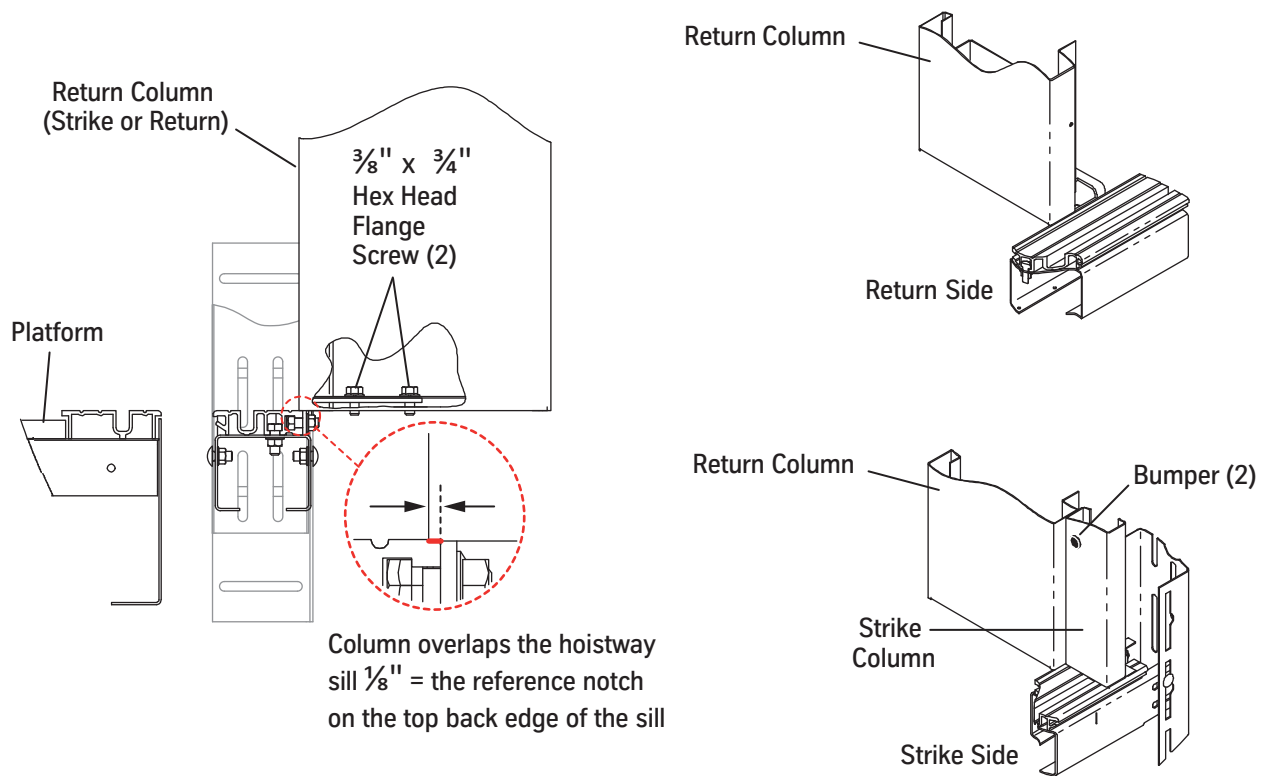

Figure 32 - Attach the Frame (standard sill shown)
2. Align the frame columns so that they overlap the hoistway sill $\frac{1}{8}$ " (the depth of the cutout on the top back edge of the hoistway sill). See Figure 32.